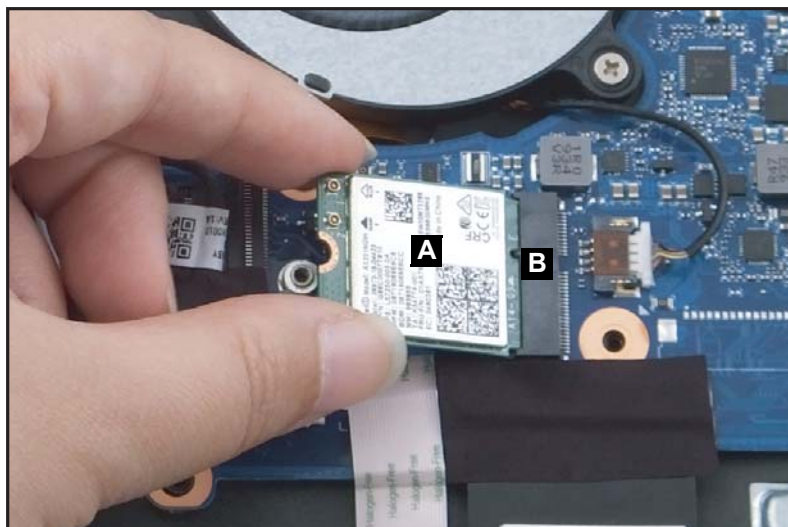

Figure 1-115. Replacing the WLAN Module
1. Place and insert the WLAN module (A) into the mainboard connector (B) (Figure 1-115).